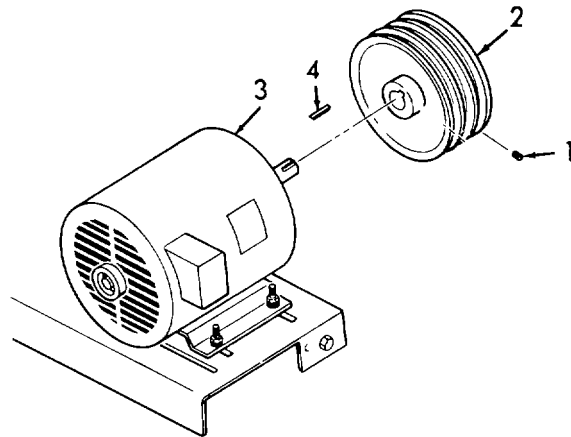

Figure 3-15. Drive Pulley, Removal.
a. *Removal.* (Refer to Figure 3-15).